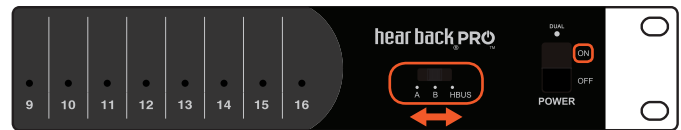

Figure 1
2. Immediately after logo turns **BLUE**, slide the “Input Selector Switch” through all “A,B,HBUS” options, then return to the original selection (**Figure 1**).